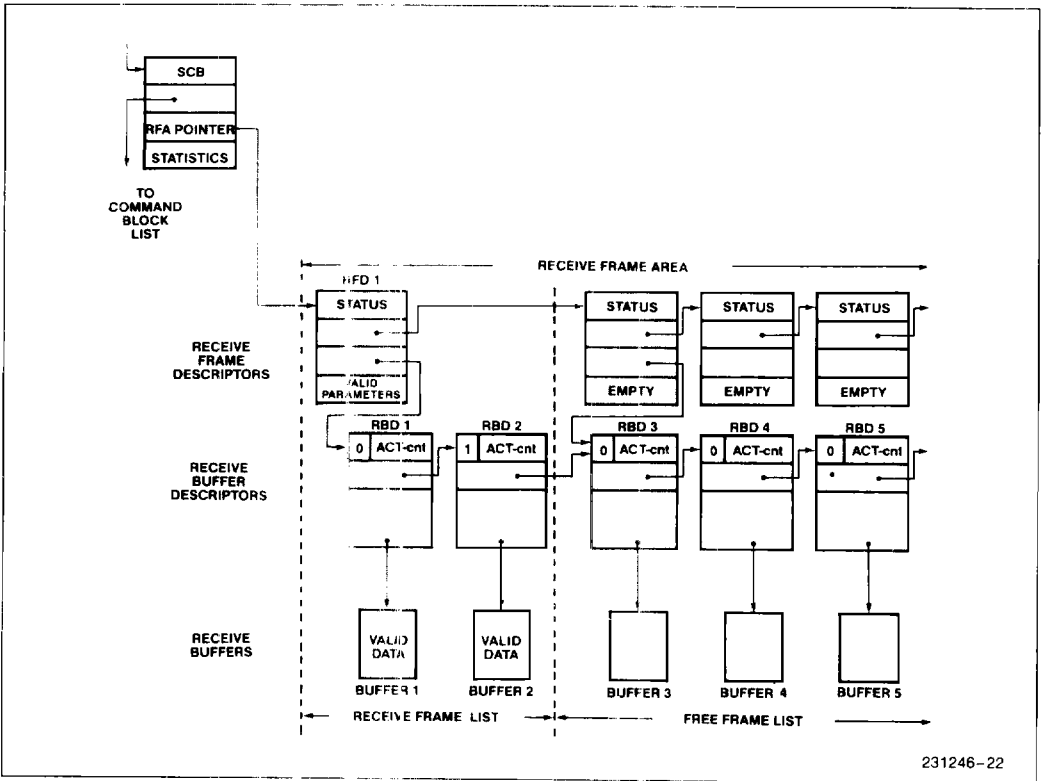

Figure 21. The Receive Frame Area
The Receive Frame Area, RFA, is prepared by the host CPU, data is placed into the RFA by the 82586 as frames are received. RFA consists of a list of Receive Frame Descriptors (FD), each of which is associated with a frame. RFA-OFFSET field of SCB points to the first FD of the chain; the last FD is identified by the End-of-Listing flag (EL). See Figure 21.
**FRAME DESCRIPTOR (FD) FORMAT**